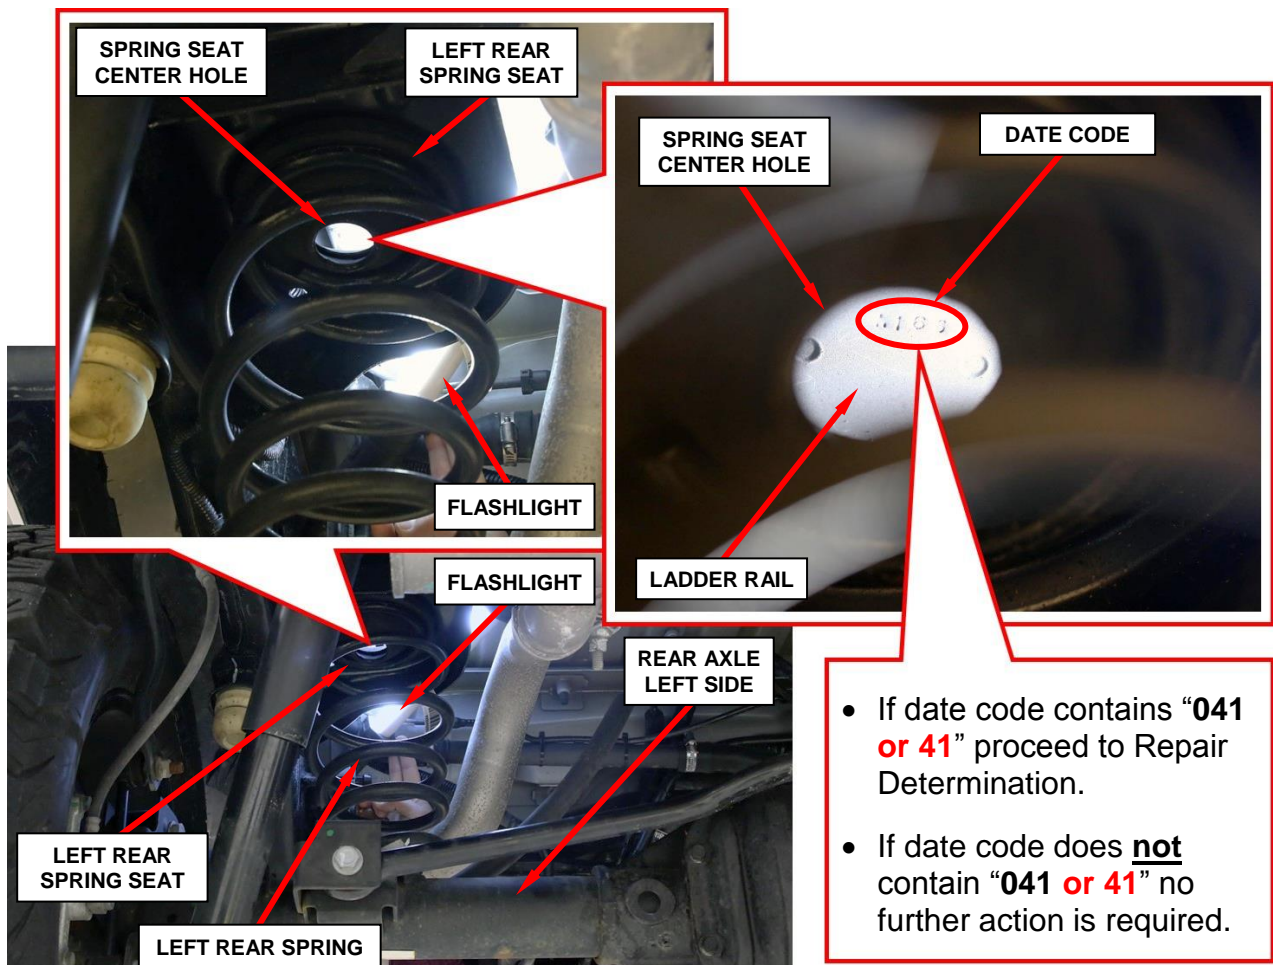

Figure 2 – Inspect Date Code - Left Side Rear Longitudinal Under Body Ladder Rail
2. While using a flashlight or bore scope, stand behind the rear axle to view the left side rear longitudinal under body ladder rail above the left rear spring seat. The date code can be viewed through the left rear spring seat center hole (Figure 2). Locate the date code stamped on the ladder rail and record date code numbers only. **Ignore any preceding letters, read the numbers only.**